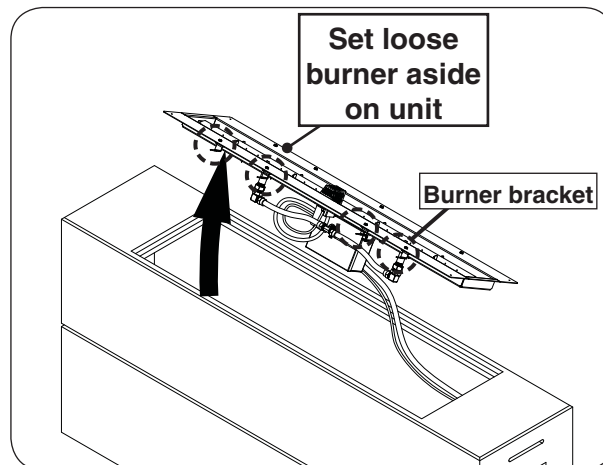

Fig. 17-2 Remove burner assembly
2. Use a $\frac{5}{16}$ " nut driver to partially unfasten the eight screws found on the burner assembly. Then carefully remove the burner and set it off to the side. See Fig. 17-2.